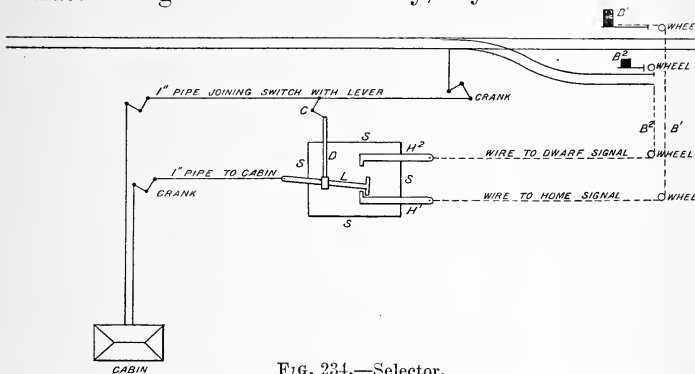

FIG. 234.—Selector.
same lever and its essential parts are illustrated in fig. 234. Theoretically, any number
and 2 regulate the selectors for 3 signals (A) in one direction and for two signals (B) in the other direction, yet a "2-way selector" is used in each case. This is so because although there are three routes, signal B² is cleared whichever of the switches 1 or 2 is set for the divergent route. In consequence of this rule the selector of fig. 234, is a "1-way." A box,
**Selector.** S, fig. 234, contains two hooks, H, (three in a two-way, four in a three-way, etc.) which form the connection with the signal wires, a lug, L, (only one lug is used for all "ways") and a driving rod, D, (a separate driving rod is used for each switch and the number in a selector therefore corresponds exactly with the size, 1-way, 2-way, etc., of the selector). The crank, C, connects D with the line of pipe which joins the switch with its lever in the machine, and D, consequently acts in accordance with the motion of the switch lever. Through a hole in D, L is loosely passed so that although it is moved by D laterally, nothing prevents the longitudinal motion of L. As the drawing is made, the switch stands for the main track and L is in connection with H1 (the main-track signal hook). If the switch should be reversed by moving its pipe to the left, D would force L into connection with H2 and L then being moved to the left would result in lowering B2.